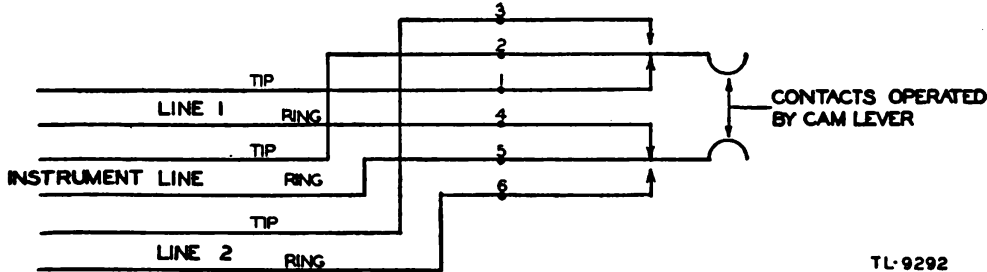

Figure 106. Wiring of Switchbox BE-54-A (2-line).
a. Switchbox BE-54-A is a contact key designed to connect a telephone to either of two lines. Switchbox BE-54-A can be used with wiring plans 100, 203, 204, 205, and 206. The cam lever on the key is connected to and operates the contact springs inside the key. (See fig. 106.) The cam lever has two positions, normal (vertical) and off normal, and will lock in either position.